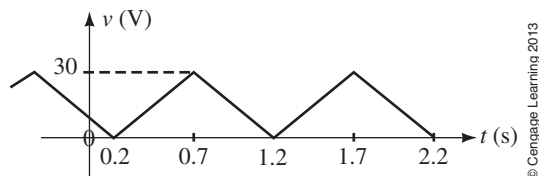

FIGURE 25–57
13. A composite waveform is made up of the two periodic waves shown in Figure 25–58.